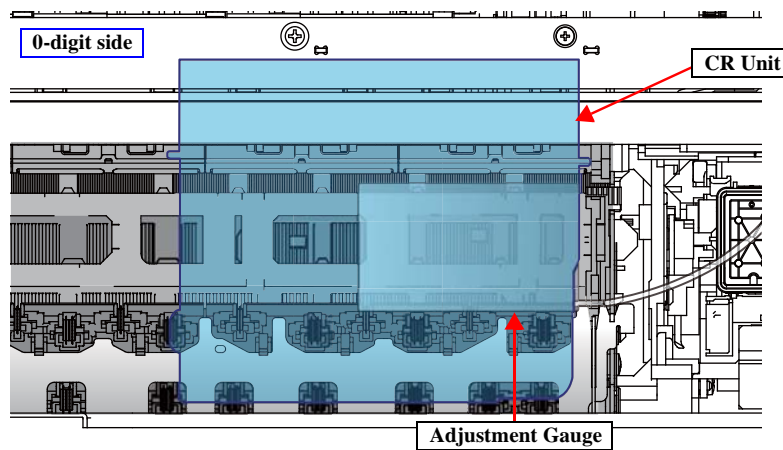

Figure 2-20. Setting the Adjustment Gauge
- Right direction: Align the right end of the gauge with the position shown in Figure 2-20.